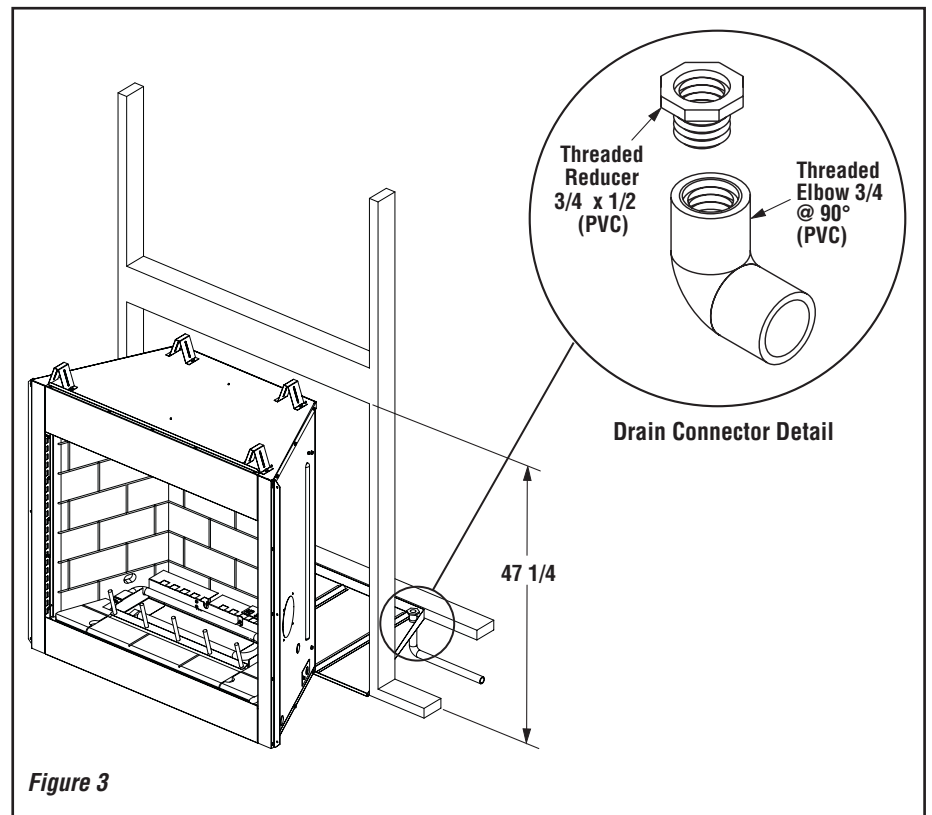

Figure 3
3. Waterproof the fireplace or install the optional drip pan (see *Waterproofing The Fireplace and Figure 3* on page 5).
Step 1. Seal all joints, gaps and corners around the bottom of the drain pan before positioning the fireplace on its location (*Figure 3*).